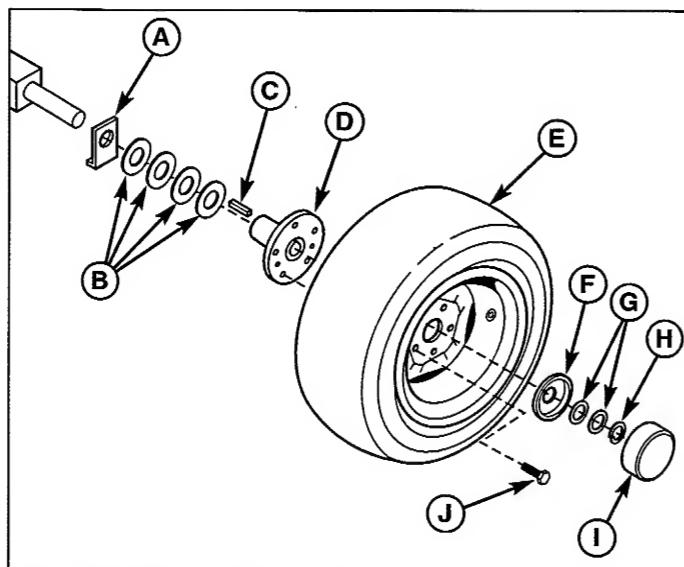

Figure 38. Rear Axle Assembly
NOTE: Your axle assembly may differ slightly from the assembly pictured: the quantity of washers (G, Figure 38) may be one or two. This is adjusted on a tractor by tractor basis during assembly to allow a small amount of axle end-play.
4. Remove the wheel bolts (J, Figure 38) and wheels (E).
5. Remove the plastic hub cap (I).
6. Remove E-ring (H) using a screwdriver.
7. Remove the washers (G), hub cap retainer (F), and wheel hub (D). Remove the key (C).
9. Reinstall the components in reverse order of disassembly and lower the unit. Be sure the key (C) is in place in the axle keyway.